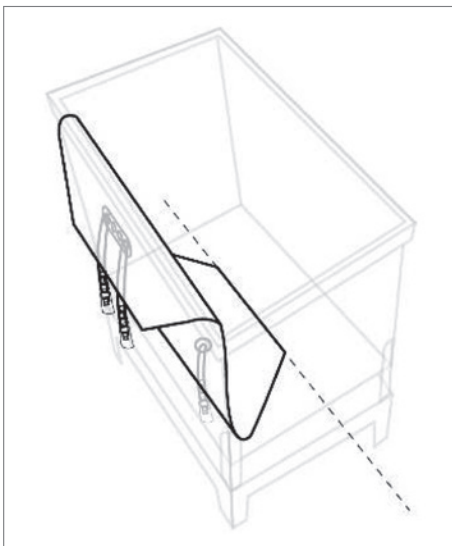

Fig. 13
15. Check that the K-seal of the Flexsafe® 3D Bag is correctly positioned along the centerline and parallel to the front and back of the container (see Fig. 13).